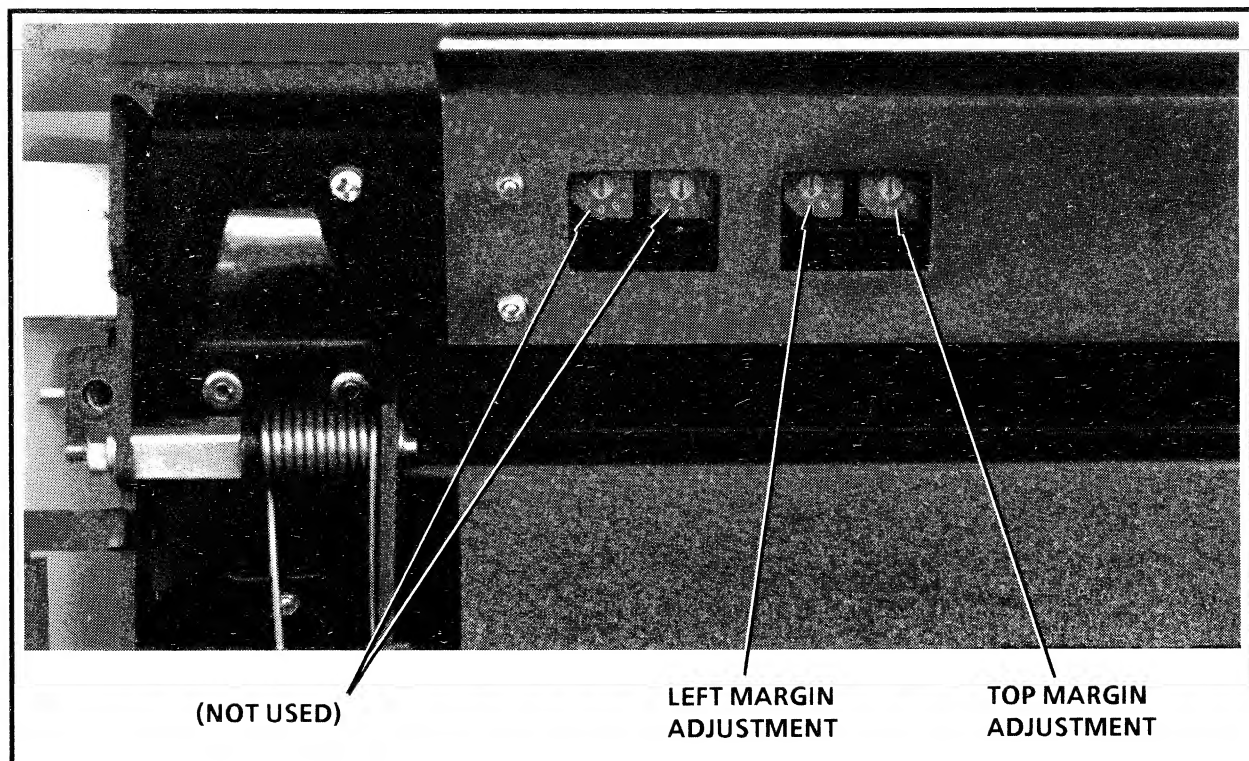

Figure 4-3. Rotary Switch Settings
2. Facing the front of the plotter, locate the two rightmost rotary switches in the top cover as shown in Figure 4-3. The two leftmost switches are not used.
3. To set the top margin, select one of the ten positions (0 to 9) on the rightmost rotary switch as shown in Figure 4-3. Each division corresponds to approximately 0.5 inch (12.7 mm).
4. To set the left margin, select one of the ten positions (0 to 9) on the second rotary switch from the right as shown in Figure 4-3. Each division corresponds to approximately 0.5 inch (12.7 mm).